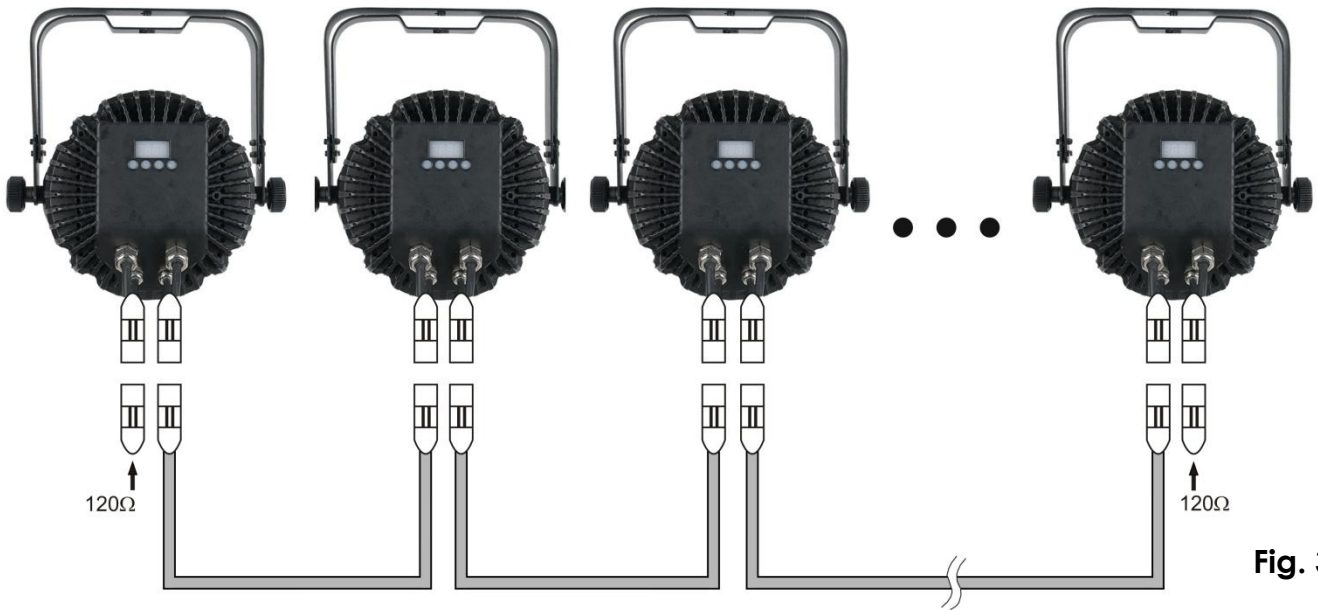

Fig. 3
3. Link the units as shown in (Fig. 3), Connect a DMX signal cable from the first unit's DMX "out" socket to the second unit's "in" socket. Repeat this process to link the second, third, and fourth units. You can use the same functions on the master device as described on page 13 and 14 (Built-in Programs or Autorun). This means on the master device you can set your desired operation Mode and all slave devices will react the same as the master device.